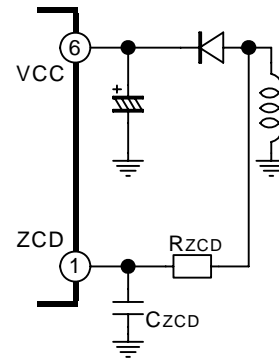

Fig.21 VCC circuit
- Generally the auxiliary winding voltage of a transformer is rectified and smoothed and is connected to this pin (Fig. 21).